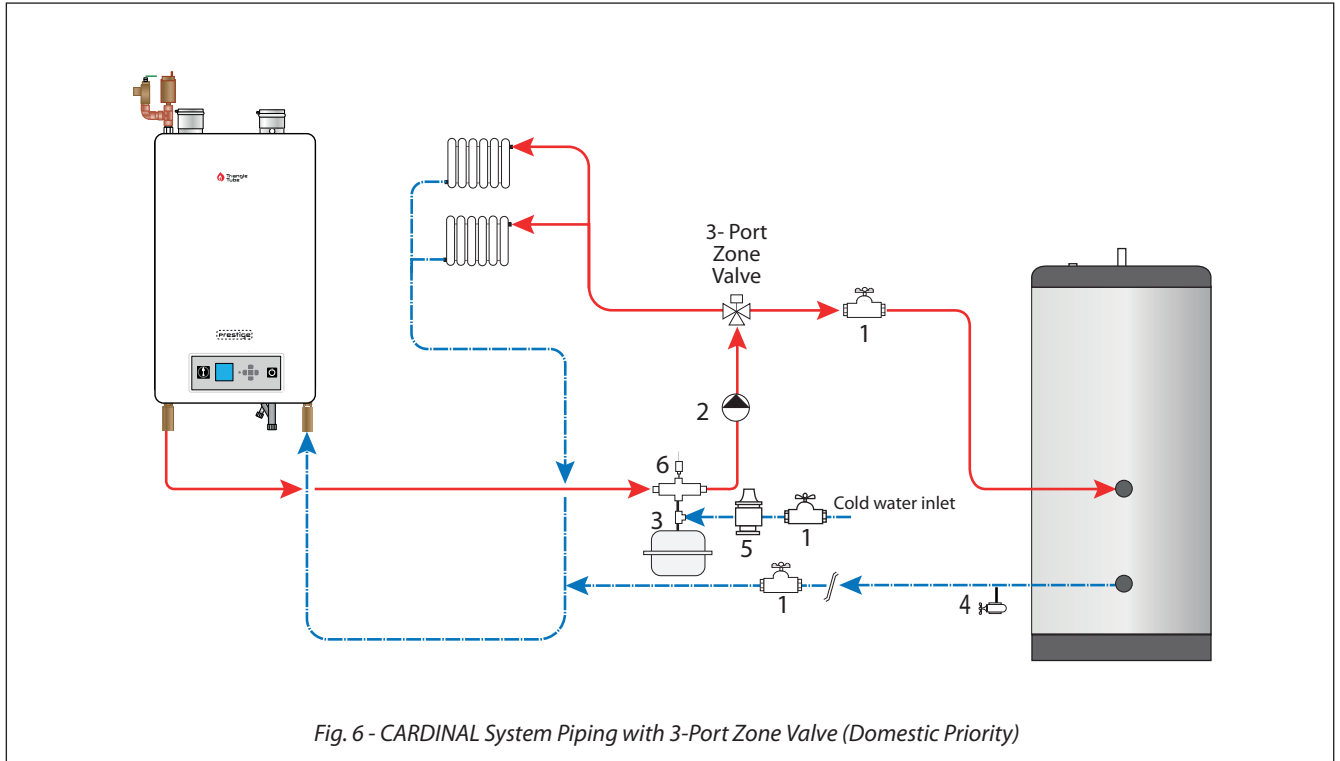

Fig. 6 - CARDINAL System Piping with 3-Port Zone Valve (Domestic Priority)
- For Boiler water piping, refer to *Fig. 6 on page 11 thru Fig. 9 on page 12*.